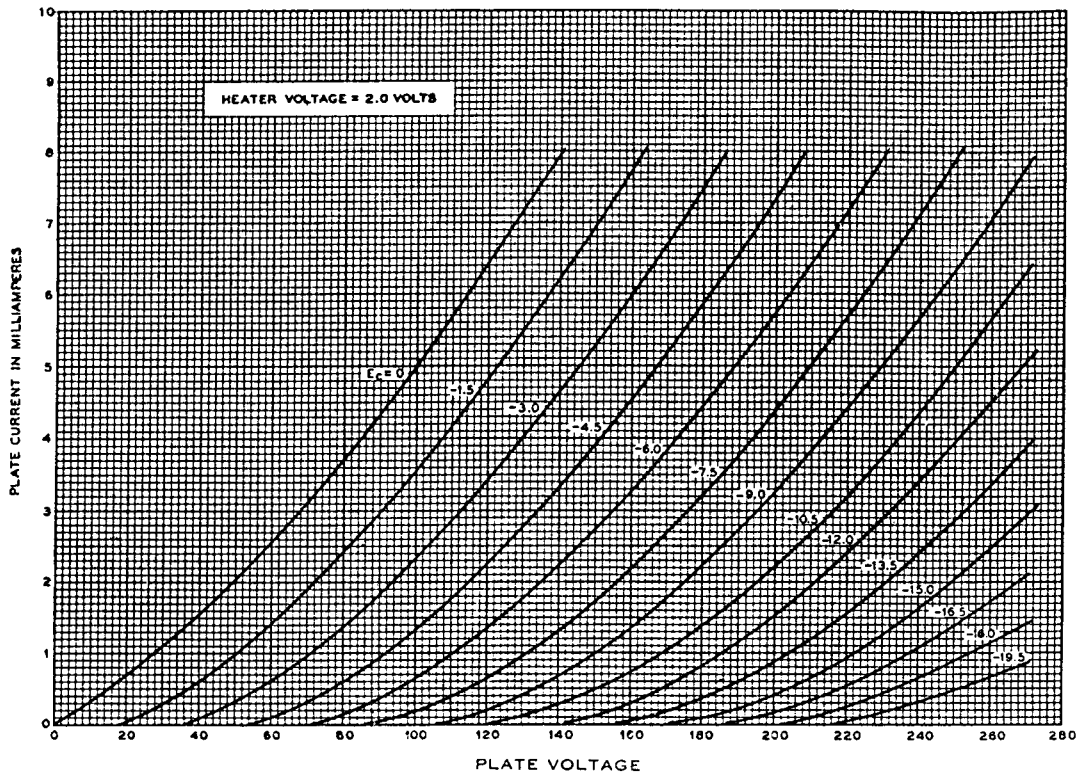

FIG. 7
**Triode Characteristics**—Plate current characteristics of the triode section of a typical 303A tube are shown in Figure 3 as functions of grid bias for several values of plate voltage. Corresponding amplification-factor, plate-resistance, and transconductance characteristics are given in Figures 4, 5, and 6 respectively. Plate current characteristics as functions of plate voltage for several values of grid bias are shown in Figure 7.